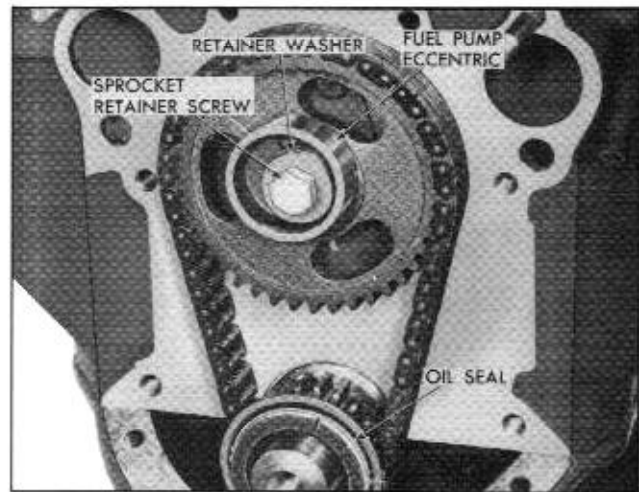

Fig. 6-26 Front of Engine with Timing Sprocket Cover Removed
19. If new fuel pump eccentric is to be installed, remove camshaft sprocket retainer screw and retainer washer and remove eccentric (Fig. 6-26). Install new eccentric, indexing pin on eccentric with hole in camshaft sprocket. Insert retainer screw with retainer washer and tighten securely.